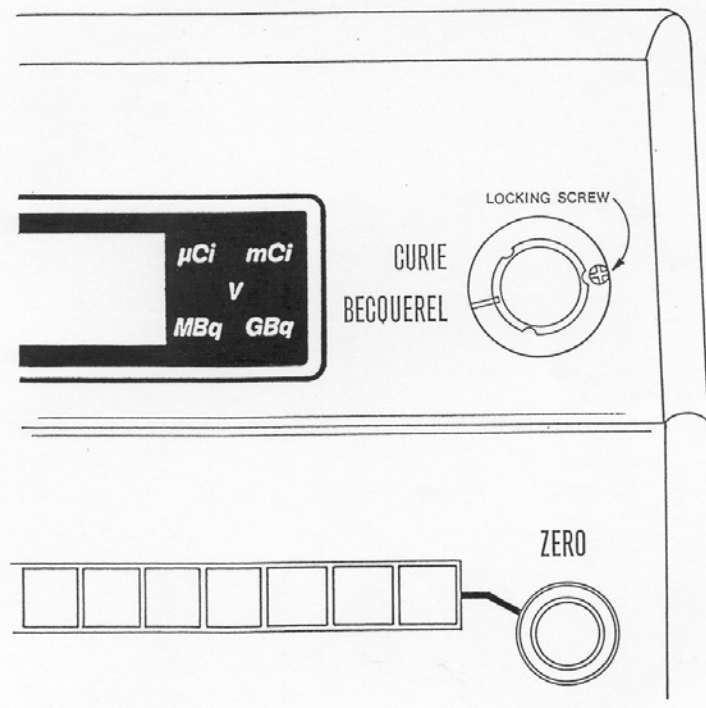

Figure 4-2
3. Insert the locking screw and tighten. (Refer to Figure 4-2)